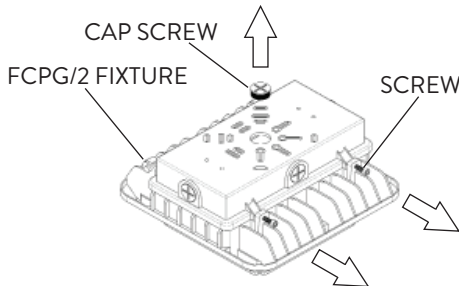
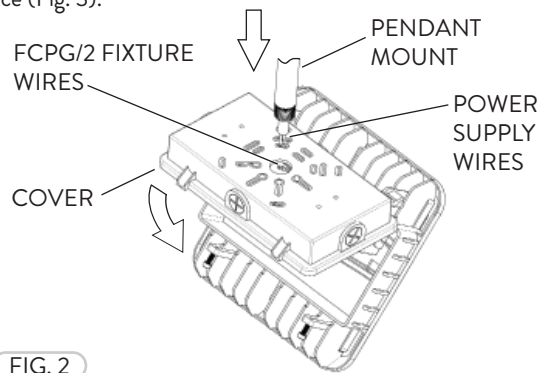
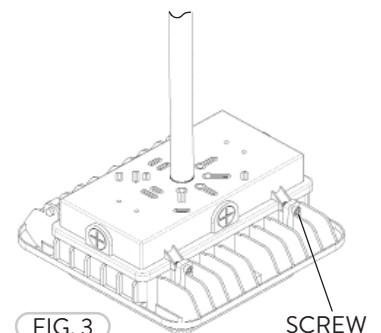

FIG. 1
FIG. 2
FIG. 3
- 1 The FCPG/2 fixture can be mounted with a Pendant Mount. Remove the Cap Screw from the top and loosen the Screws (2) from the side of the FCPG/2 fixture (Fig. 1). Open the Cover and install the Pendant Mount (Fig. 2). Add waterproof sealant on any possible opening that will allow fluids to enter the Cover. Use the wiring diagram provided to properly connect the fixture to the power supply. All connections must be compliant with NEC standards and must be performed by a certified electrician. Once all the wires are properly connected, close the FCPG/2 Cover and fasten the Screws (2) to secure the Cover in place (Fig. 3).